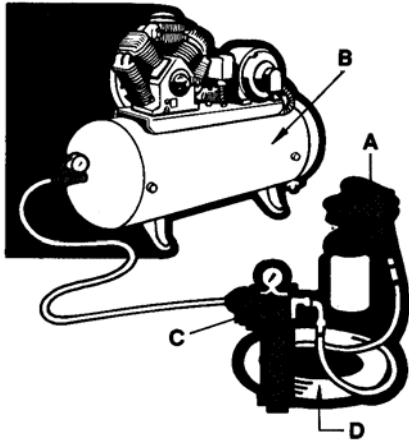

Figure 16 — suction feed system components.
A typical suction feed system consists of a (A) suction feed spray gun with cup, (B) an air compressor, (C) an air control device, and (D) lengths of air hose, (Fig. 16)